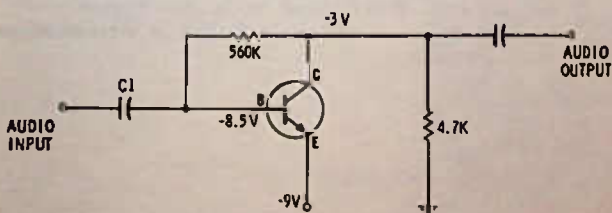

Fig. 12-17. Circuit for Questions 19, 20, 21, 22, 24, and 25.
19. In Fig. 12-17, how much bias does the transistor have?
20. In Fig. 12-17, the collector current (and consequently the emitter current) is
21. In Fig. 12-17, the 560K resistor
22. In Fig. 12-17, if you shorted between the base and emitter with a jumper wire, and the transistor were good, you would expect
24. In Fig. 12-17, how much is the collector voltage with respect to emitter, and what polarity?
25. In Fig. 12-17, if you measured the collector voltage to ground and found it was almost 9 volts, the likely trouble might be